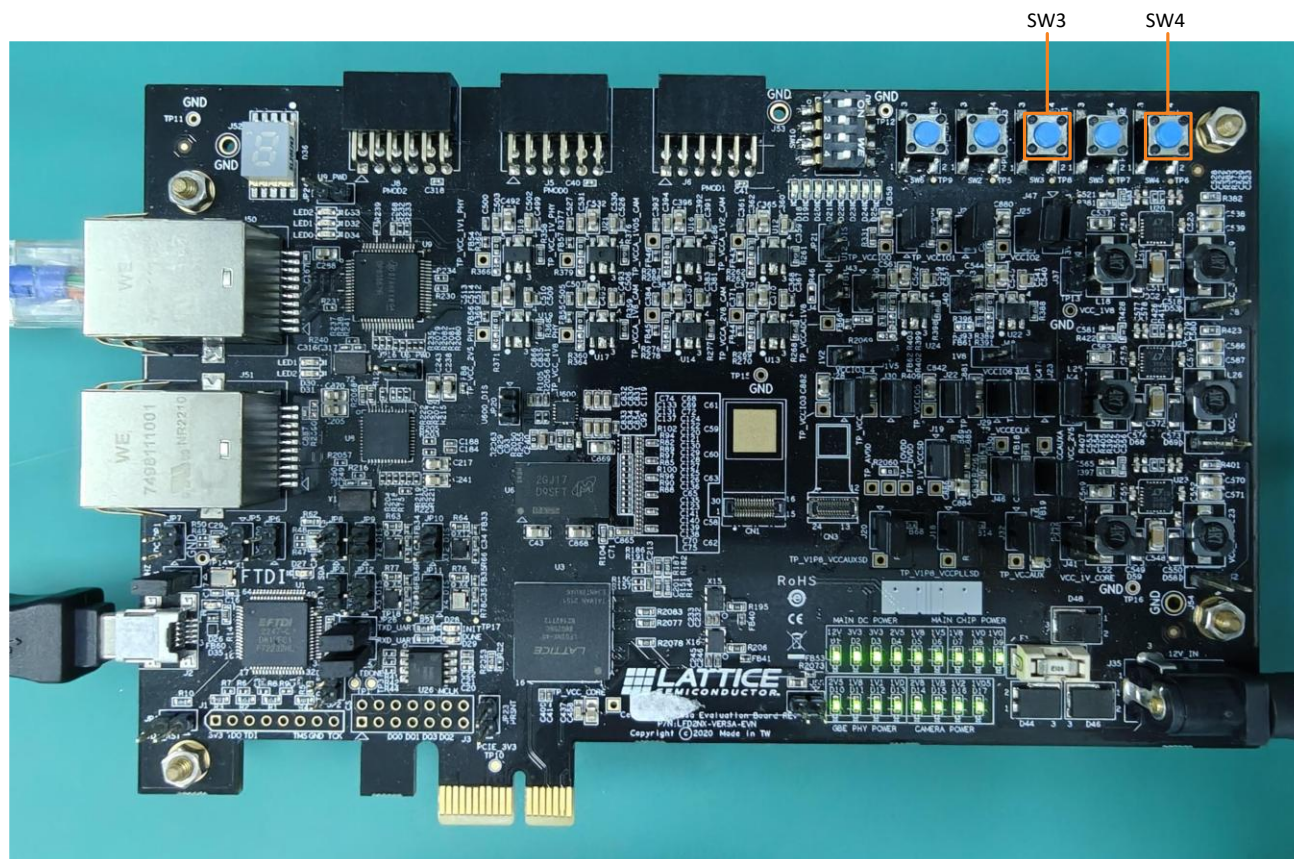

Figure 6.21.-SW3 Reset Button and SW4 PROGRAMN Button
19. Press **SW3-Reset** button on the board as highlighted in Figure 6.21.